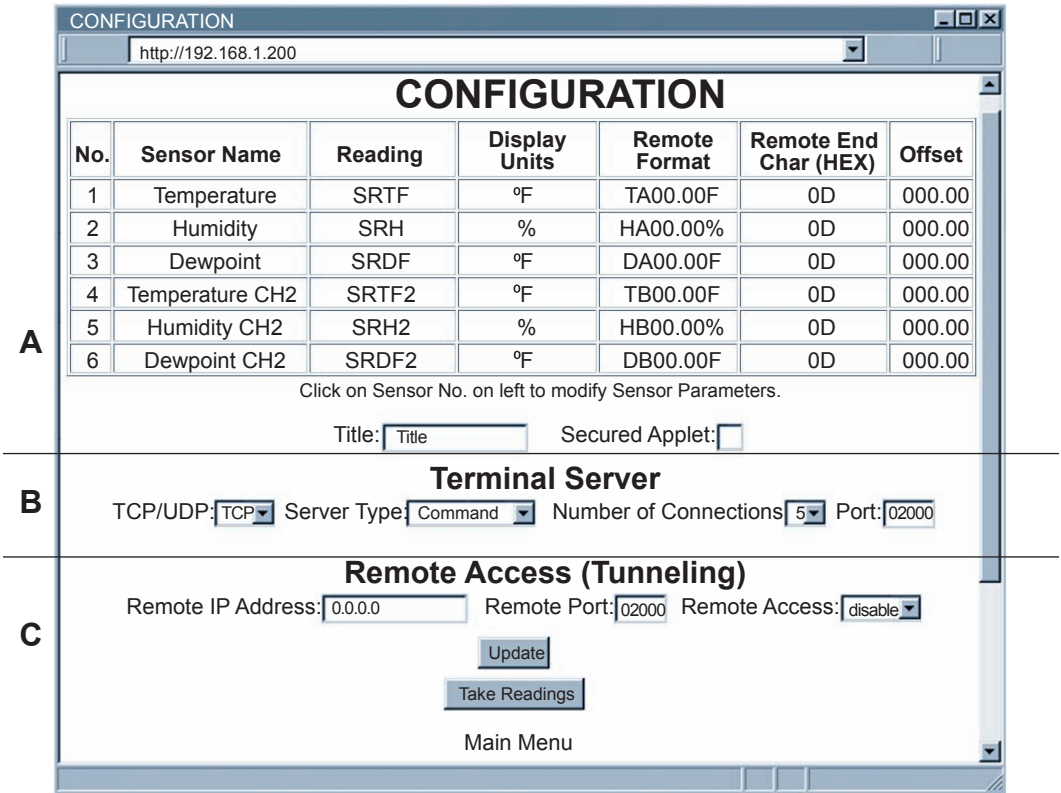

Figure 4.9 Configuration
- In the first column of Configuration's page, click on **1** to view and modify Sensor Parameters. See **Figure 4.9**.